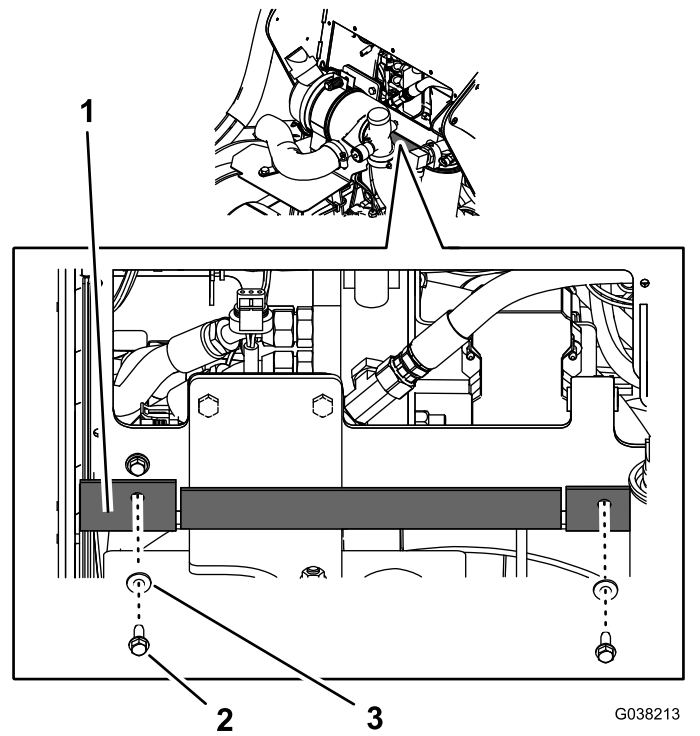

Figure 34
1. Align the holes in the rubber baffle (Figure 34) with the holes in the bottom of the control panel frame.